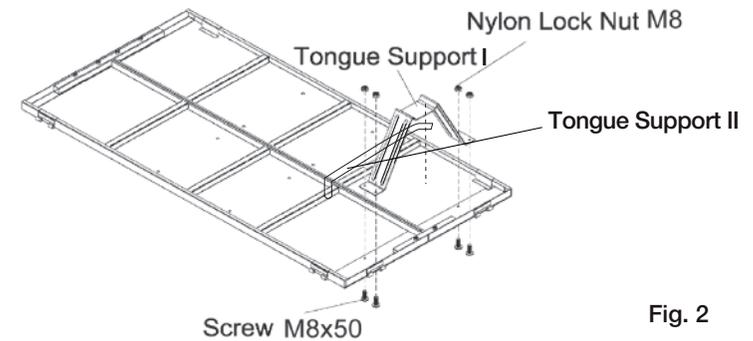

Fig. 2
**STEP 2: Attach Tongue Support (See Fig. 2)**